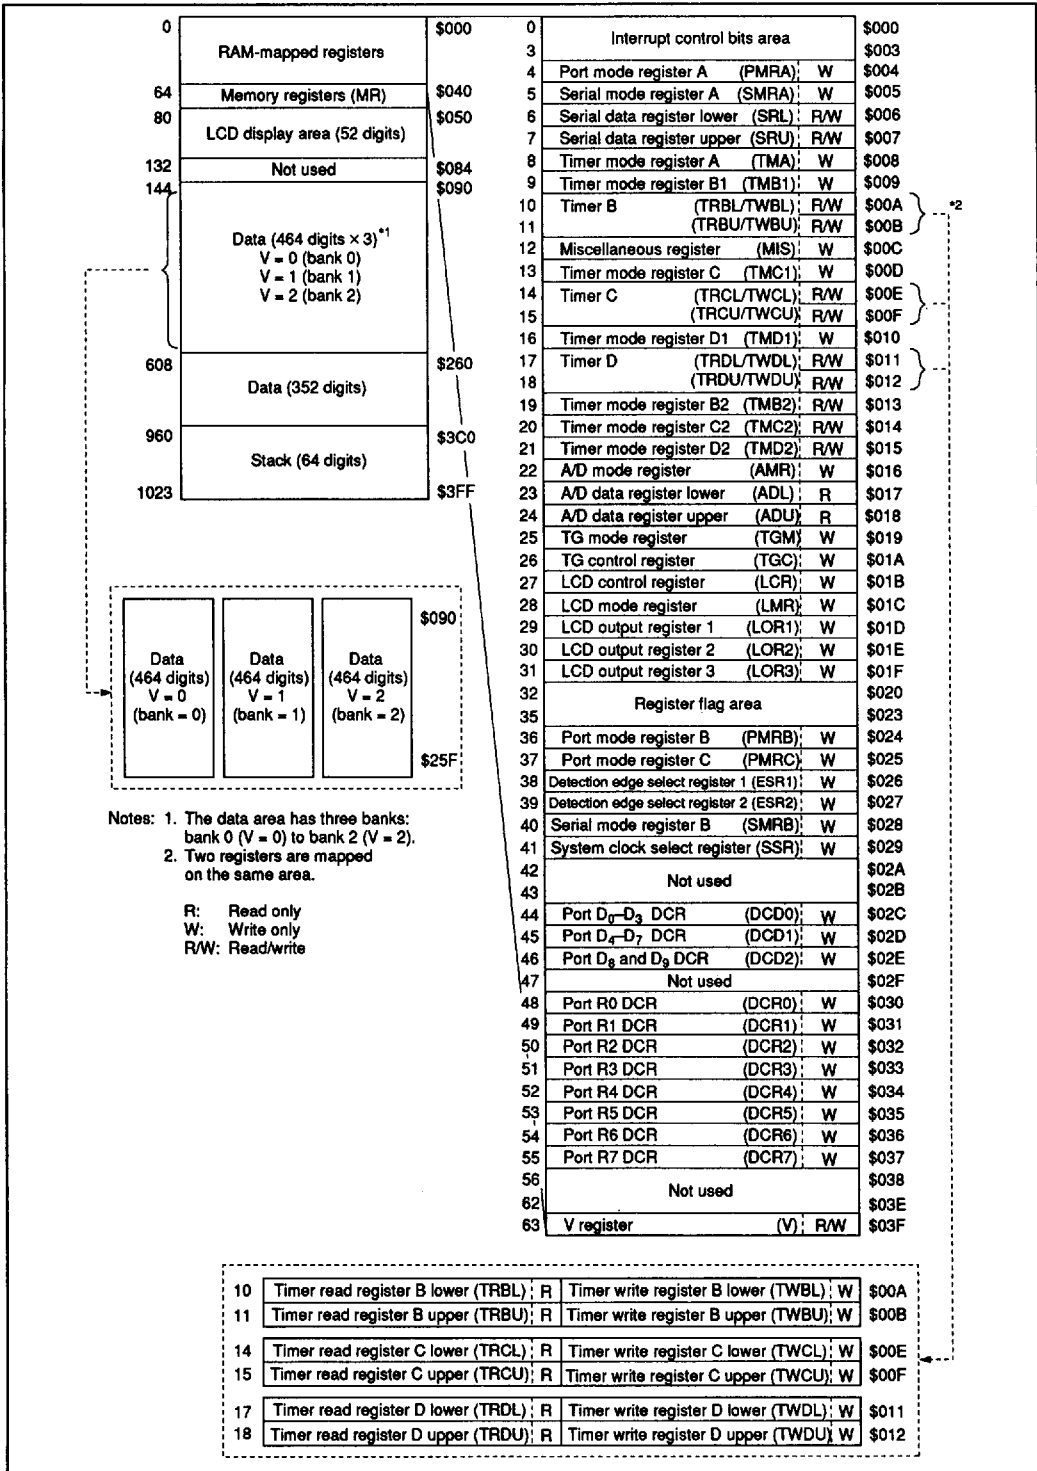

Figure 2 RAM Memory Map
The MCU contains a 1,876-digit × 4-bit RAM area consisting of a memory register area, an LCD data area, a data area, and a stack area. In addition, an interrupt control bits area, special register area, and register flag area are mapped onto the same RAM memory space as a RAM-mapped register area outside the above areas. The RAM memory map is shown in figure 2 and described below.
This area is used as mode registers and data registers for external interrupts, serial interface, timer/counters, LCD, A/D converter, and as data control registers for I/O ports. The structure is shown in figures 2 and 5. These registers can be classified into three types: write-only (W), read-only (R), and read/write (R/W). The SEM, SEMD, REM, and REMD instructions can be used for the LCD control register (LCR: \$01B), but RAM bit manipulation instructions cannot be used for other registers.